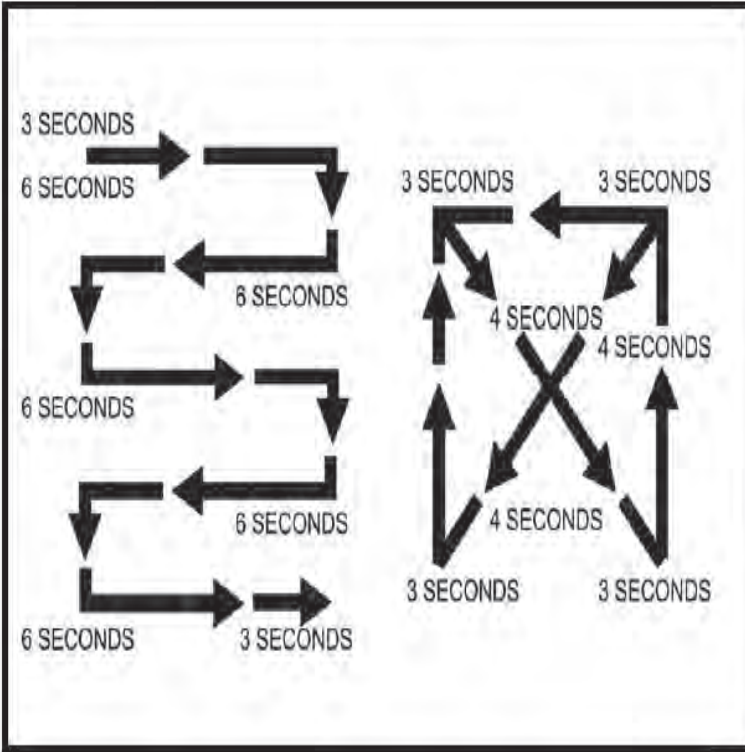

Figure 071-COM-0804-4. Night scanning patterns.
(2) Use night vision scan technique (Figure 071-COM-0804-4).